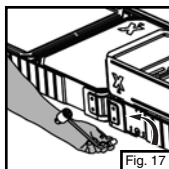

Fig. 17
- Remove regulator from stove (Fig. 17).